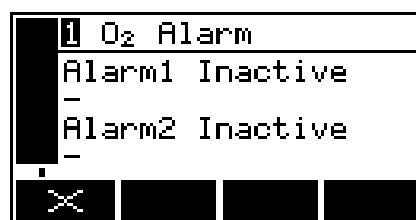

Figure 67 – The alarm status screen
1. On the measurement screen, press the  soft key; the alarm option screen (Figure 67) will then be displayed.
2. In the alarm status screen shown in Figure 67, both measurement alarms are shown as 'Inactive'; that is, either the mode of each alarm is set to 'none', or no alarm condition currently exists.